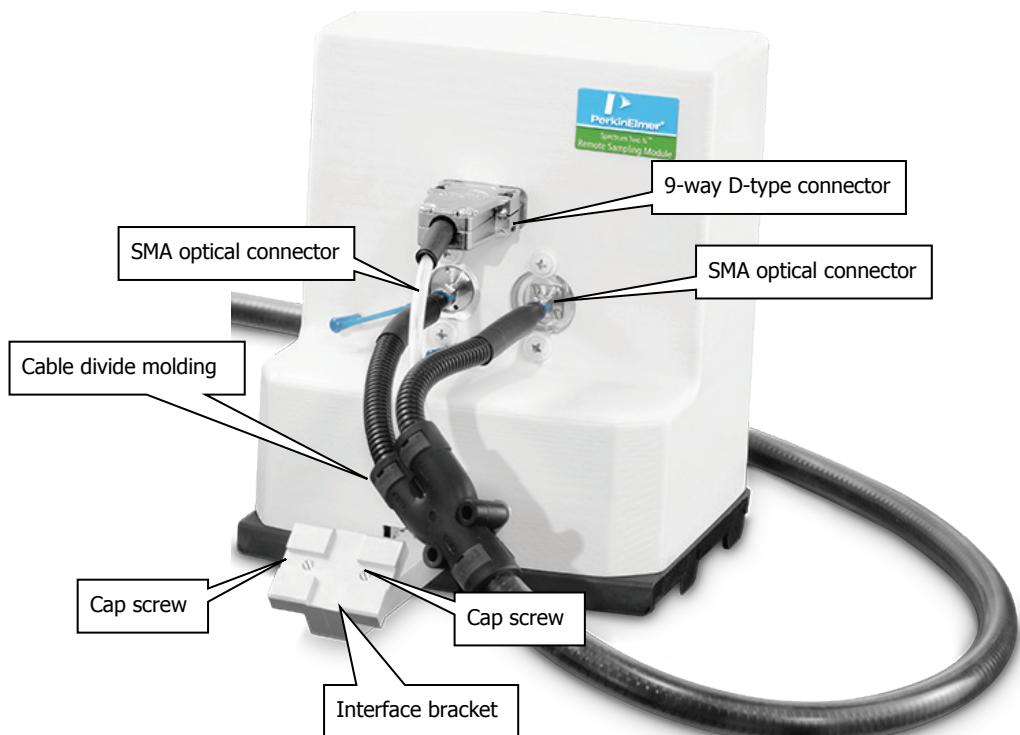

Figure 6 Connecting the probe cable to the Sample Area Interface
3. Secure the cable divide molding to the bracket on the interface using the two cap screws provided (Figure 6).